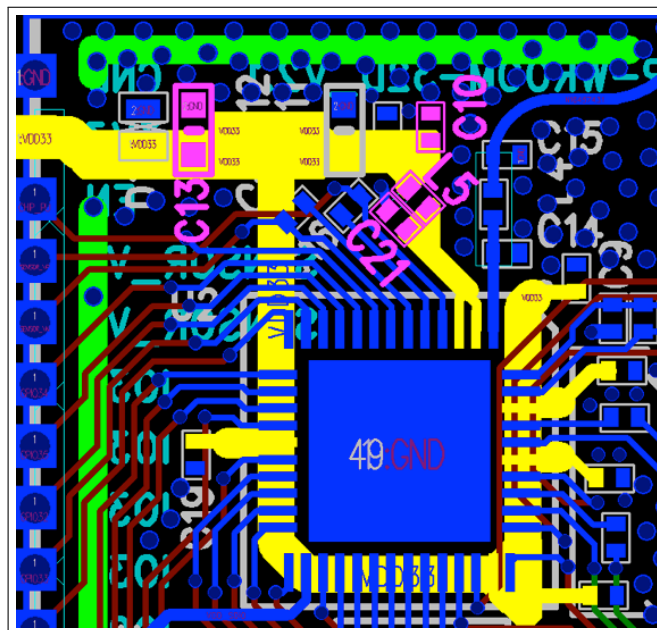

Figure 14: ESP32 Power Traces in a Four-layer PCB Design
- The 3.3 V power traces, highlighted in yellow, are routed as shown in Figure 14. The width of the main power traces should be greater than 25 mil. The width of the power traces for pin3 and pin4 should be at least 20 mil. The width of other power traces should be within the range of 12 ~ 15 mil.
- As shown in Figure 14, an ESD protection diode is placed close to the power port (marked in red circle). A 10  $\mu$ F capacitor is required before the power trace connects the ESP32 chip, to be used in conjunction with a 0.1  $\mu$ F capacitor. Then the power routing is divided into two ways. The power rails of pin3 and pin4 should be routed together to reduce the coupling between different power pins.
- It is required to place C (capacitor) and L (inductor) near the power pins pin3 and pin4. As shown in Figure 14, C13 (10  $\mu$ F) is placed at the entrance of the power, and C10, L5, and C21 are placed near the chip's analog power pins. When possible, add a 0.1  $\mu$ F capacitor to each digital power supply pin. Note that all decoupling capacitors should be placed close to the power pin, and ground vias should be added adjacent to the ground pin for the decoupling capacitors to ensure a short return path.